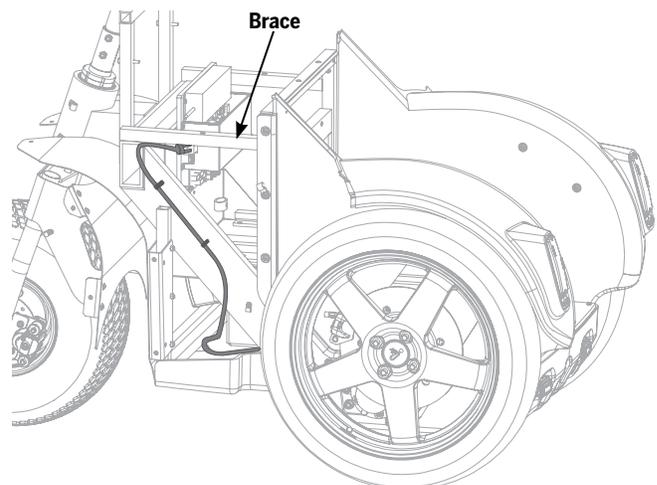

Figure 153: Motor Power Harnesses Routing
6. Install two cable ties around the harnesses on the side of the frame. See **Figure 153**.